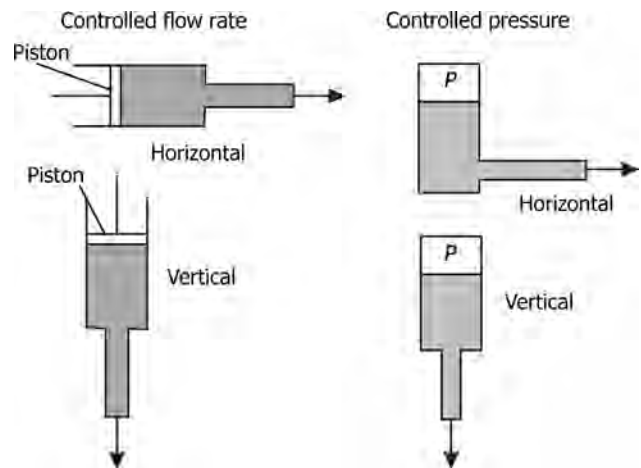

FIGURE 1.7 Tube viscometers.
■ Controlled flow and controlled pressure viscometers are illustrated in Figure 1.7.